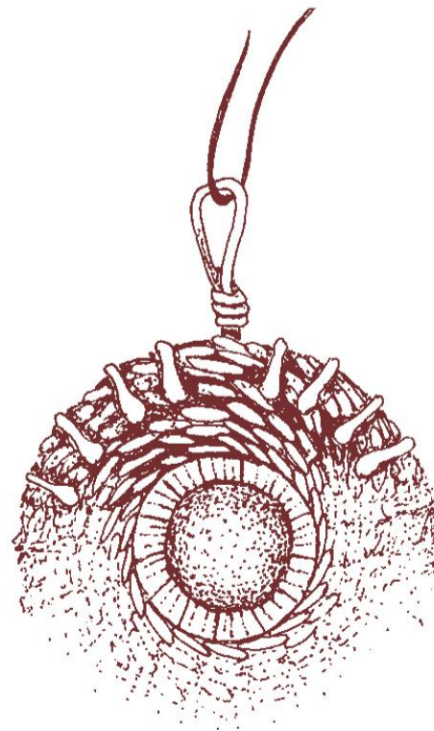

Figure 3
**11** Hammering the ends of the wire or folding the spokes to the back (see figure 3) are just a couple of the alternative methods you can use for finishing the spokes.